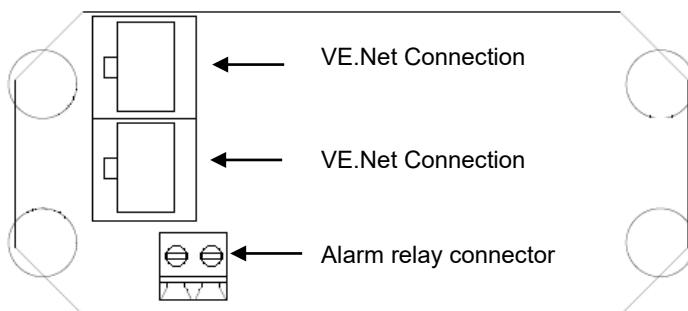

Figure 1. VE.Net GMDSS Panel Connections
2. If required connect the alarm relay. Refer to figure 1 for the locations of the connectors.